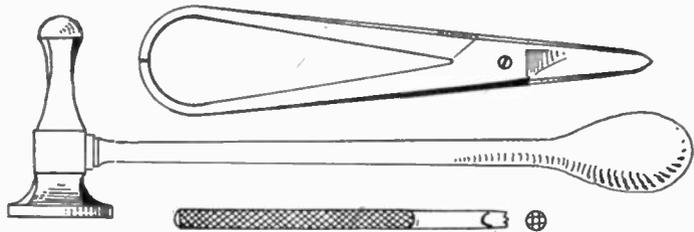

Fig. 4
mentioned—Fig. 4. The pylon then cements on to a rectangular piece of $\frac{1}{8}$ in. sheet (C) which rests on top of the fuselage.
As a help to the worker, it should be mentioned that suitable pitch for making the pitch block can be obtained from any good-class ironmongers quite cheaply in 11b. to 7lb. cartons. The type of hammer used for 'raising' the metal is shown in Fig. 4, together with the type of hand shears suitable for cutting the
The matting is essential and employed to give a background and to show up the lettering plainly. Matting tools can be obtained as two-point, three-point or four-point, and take the form shown in Fig. 4. They are generally about 3½ ins. long and ¼ in. diameter and have a